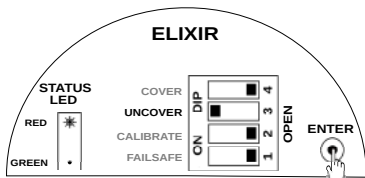

Figure 22: Setting Uncover Delay
3. Press ENTER. The STATUS LED starts blinking. Blink the STATUS LED according to value of uncover delay as shown in Figure 22.